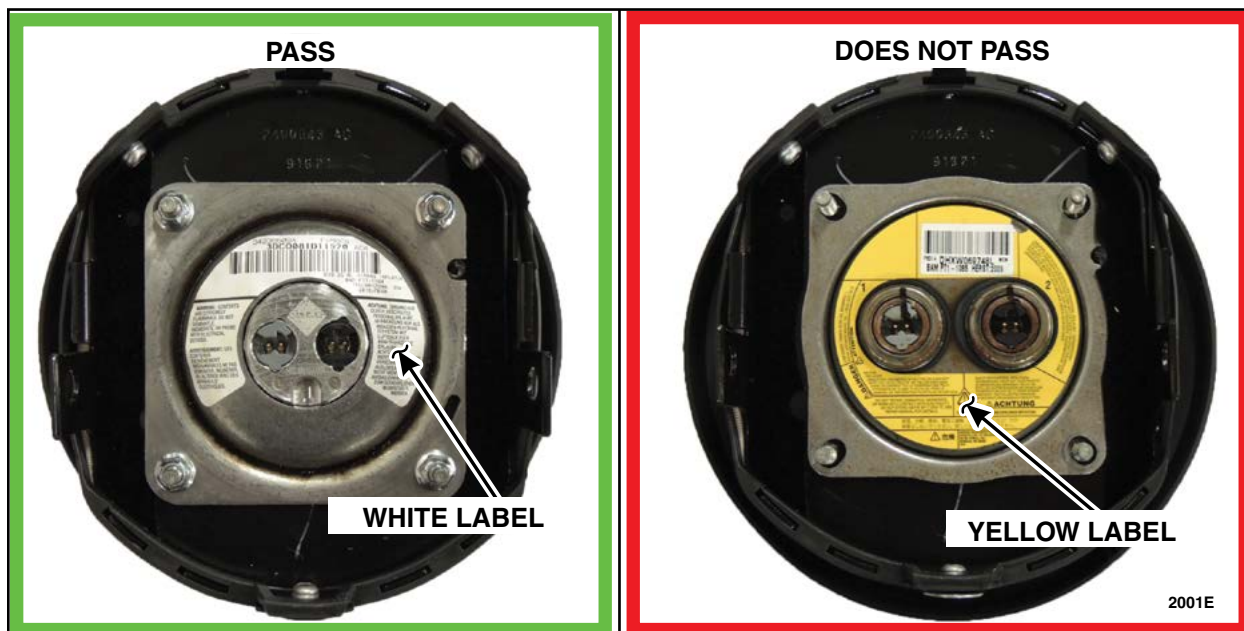

FIGURE 1
3. Inspect the label on the Driver Airbag inflator as shown in Figure 1. Is the label white in color?